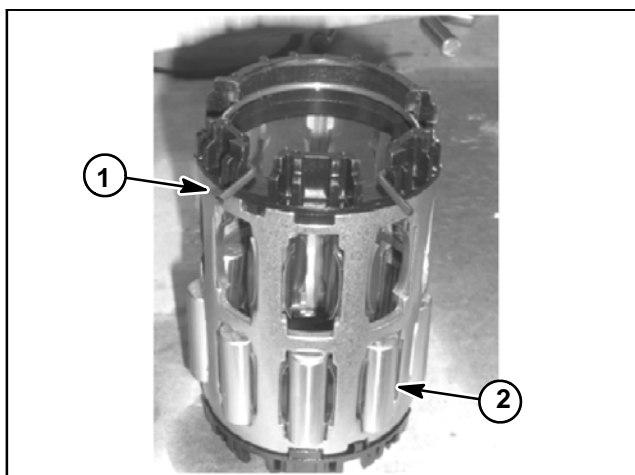

Figure 27
8. Set the roller cage on a flat surface with the torsion spring end facing up (Fig. 27). Install nine (9) rollers into the slots on the bottom row of the cage. If needed, use grease or petroleum jelly to help hold the rollers in place.